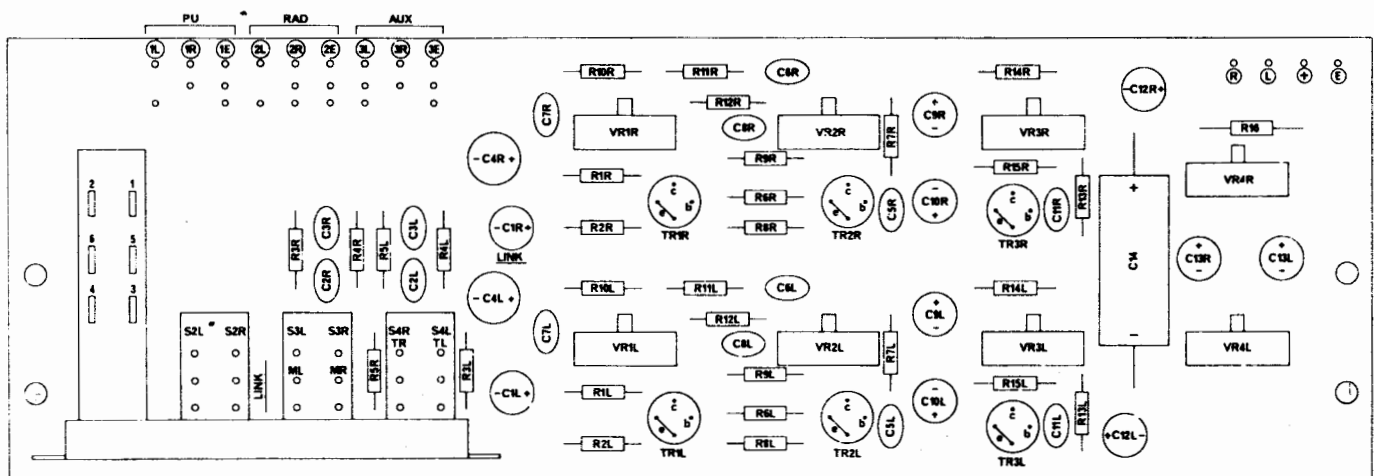

Fig. 3.3. Stereo 60 component layout.
A 2.pole on/off switch is provided on the Stereo 60, its connections numbered as in fig. 3.3.
Power is fed between \oplus and \ominus shown in fig. 3.3.
Outputs are taken from points (L) and (R) in fig. 3.3 each one between (L) (or (R)) and (E)
Mono switching can be accomplished by shorting together points MR and ML on the aux., switch, shown in fig. 3.3. If these points are shorted any signal fed into either (L) or (R) input will be amplified by both channels.